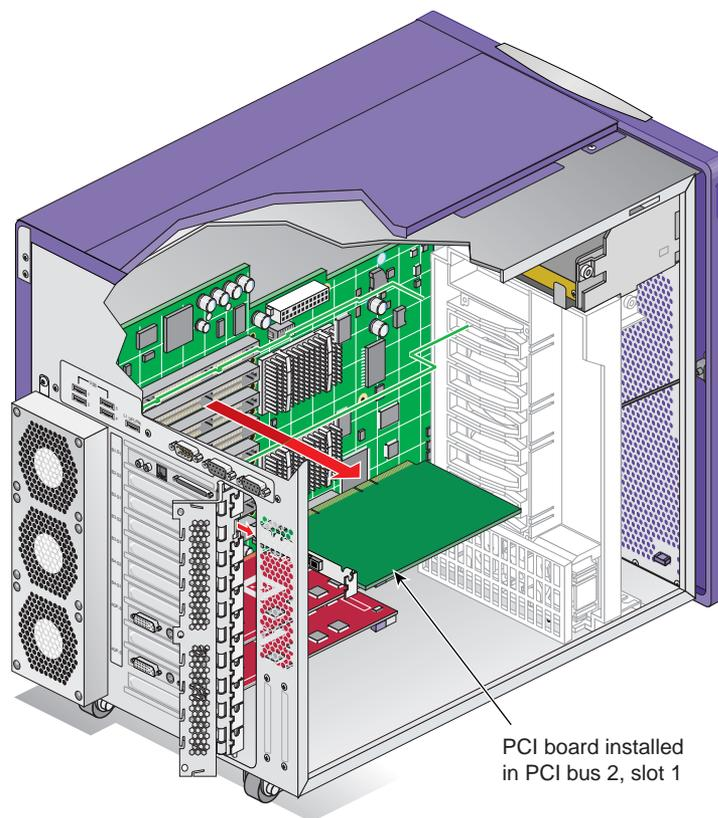

Figure 3-28 Removing a PCI Board
3. Tilt the front end of the PCI board upward until it clears the edge of the chassis. Remove the PCI board from the enclosure and place it in a safe location (see Figure 3-28).